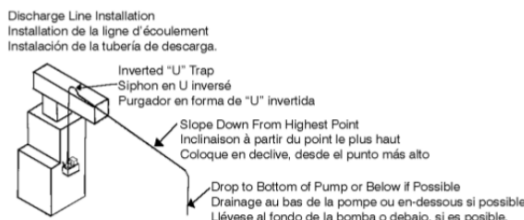

Fig. 3
1. Run flexible tubing or pipe from evaporator drain into pump inlet. Be sure inlet piping is sloped downward to allow gravity flow (Fig 3).